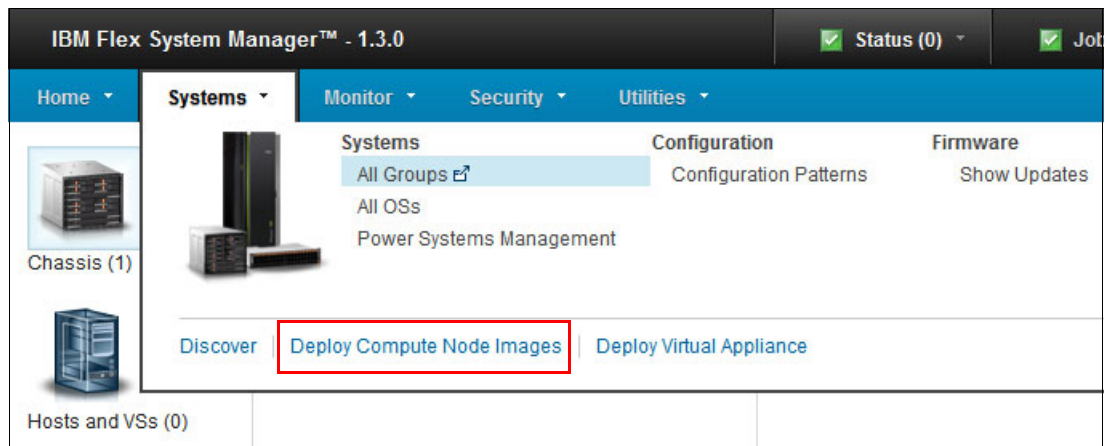

Figure 6-59 FSM Explorer: Deploy Compute Node Images
- ▶ In the FSM Explorer, click **Systems** → **Deploy Compute Node Images**, as shown in Figure 6-59.